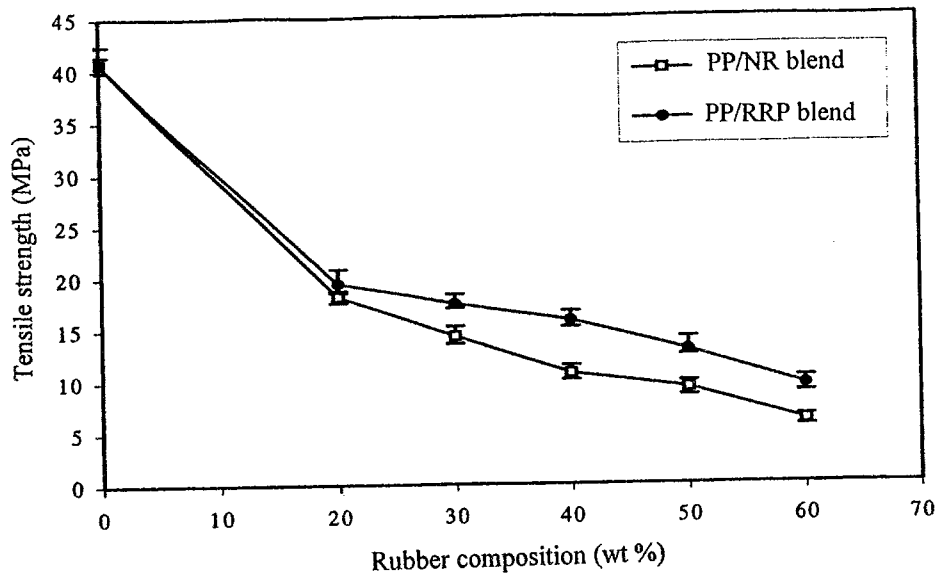
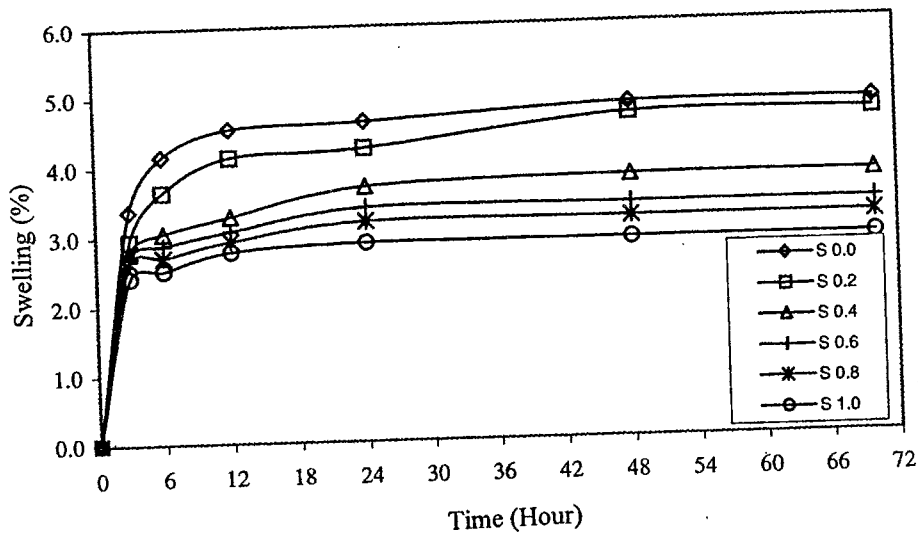

Figure 3: Tensile strength versus rubber composition
Figure 4: Swelling percentage curve versus time of PP/NR/RRP blends with different sulphur concentration
- [b] *Figure 3 shows the comparison relationship between tensile strength and rubber composition of polypropylene / natural rubber (PP/NR) blends and PP/recycle rubber powder (PP/RRP) blends. Figure 4 shows the swelling percentage curves versus time of PP/NR/RRP blends using different sulphur concentration. Discuss the results obtained in Figure 3 and Figure 4.*